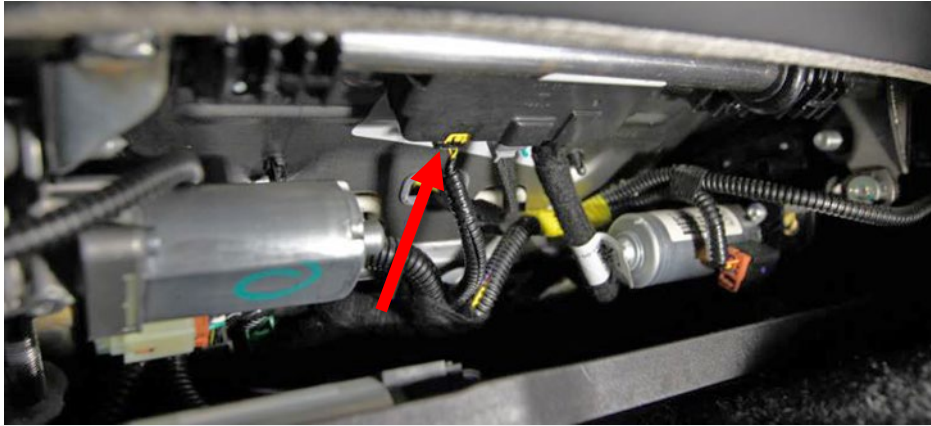

Figure 1
3. Locate the OCS module underneath the front passenger seat towards the front, and then disconnect the chassis CAN communication harness from the OCS module connector (Figure 1).